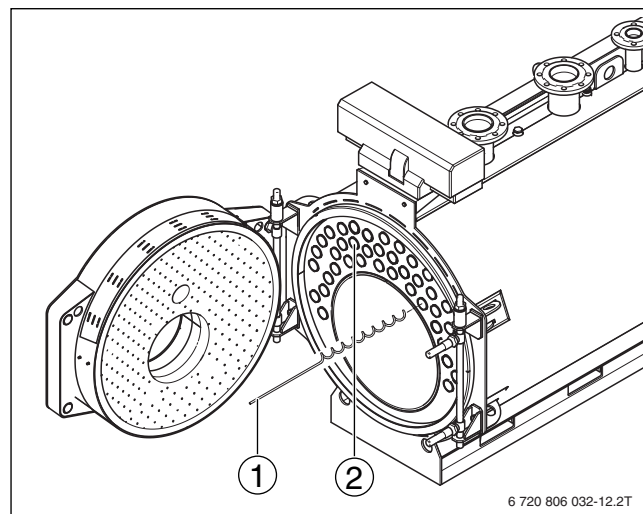

Fig. 32 Correcting securing of the turbulators
- Insert turbulators (→ Fig. 32, [1]) into secondary heating pipes [2].